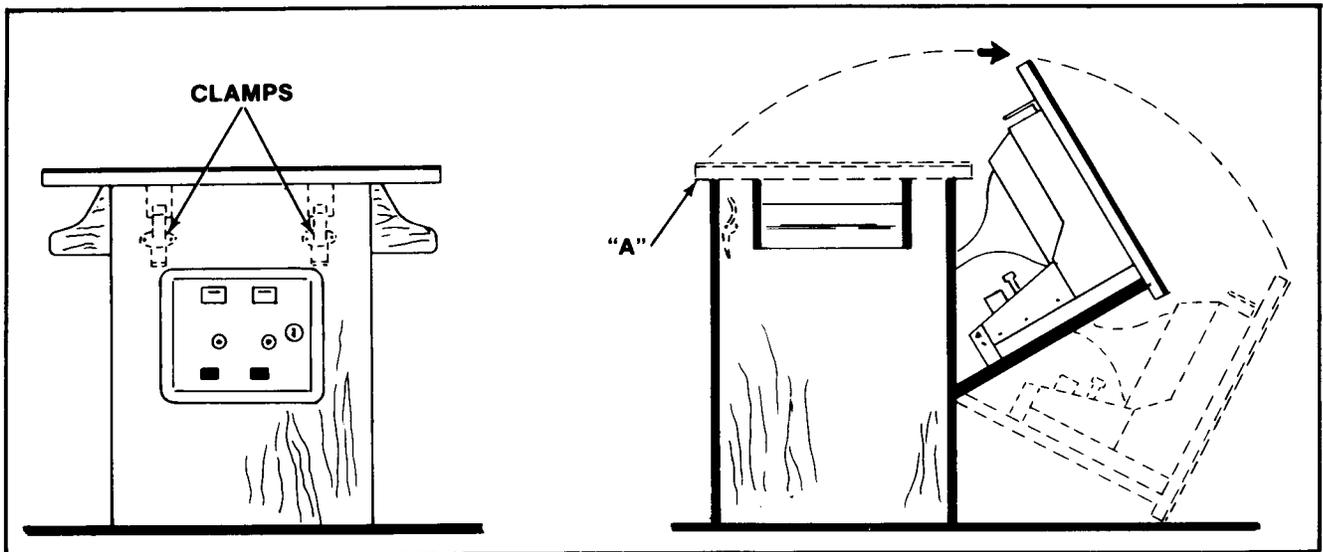

Figure 4-11 Opening the Cocktail Game
- Open the coin box door and release the two latches indicated in Figure 4-11.
- Grasp the table top at "A" and open it as indicated in Figure 4-11.
Open the coin box door and release the two latches indicated in Figure 4-11.